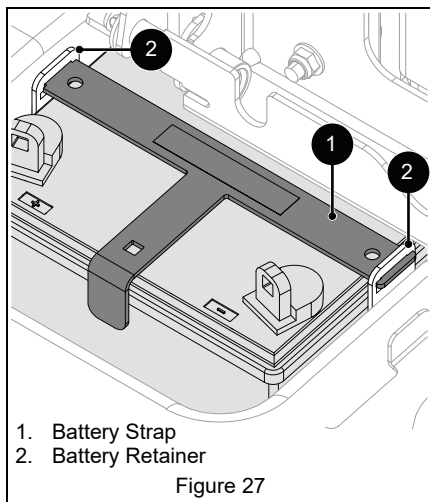

Figure 27
See Figure 27.
2. Insert battery strap ends into retainer slots. See Figure 27.